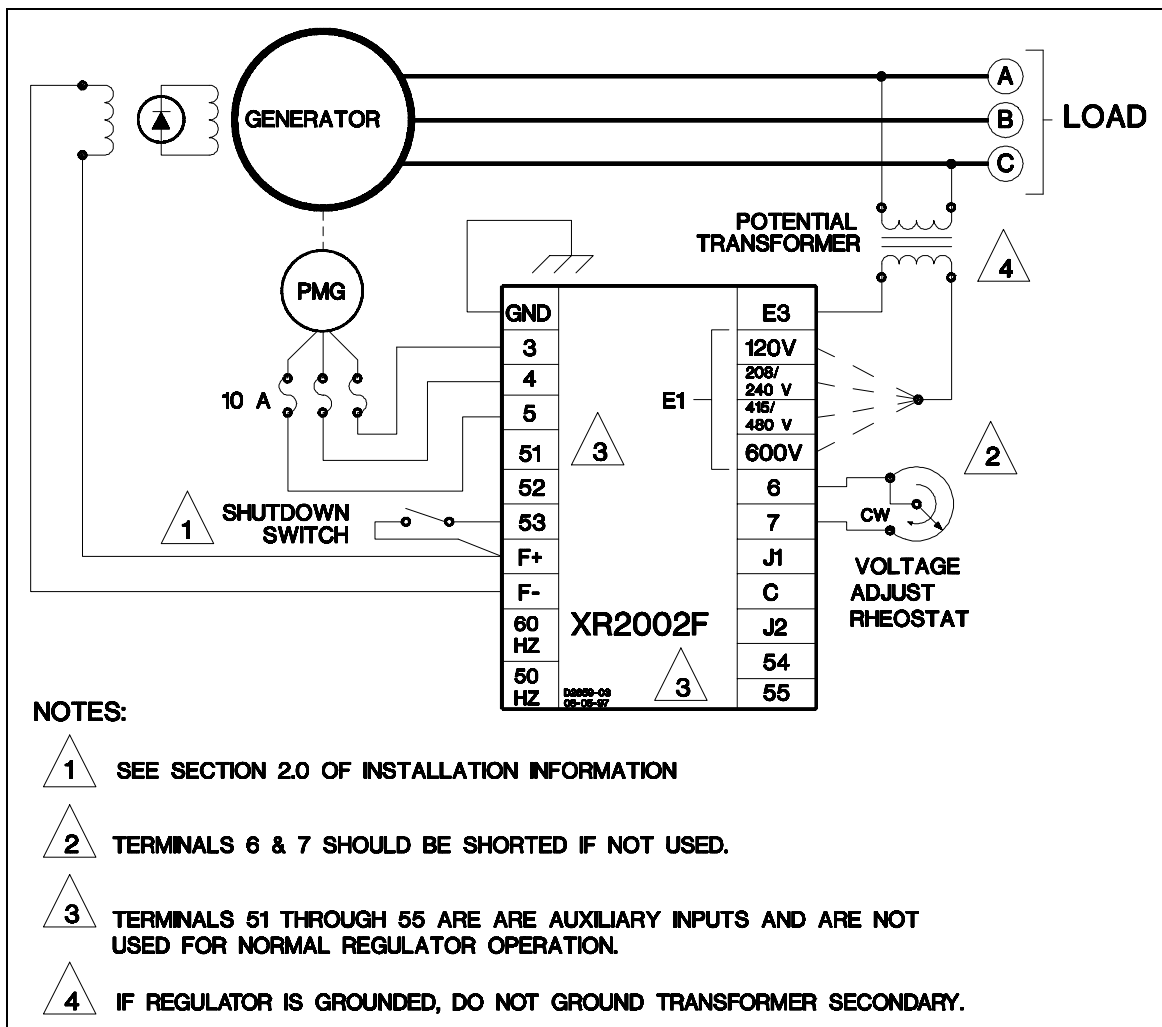

Figure 2-2. XR2002/XR2002F Interconnection Diagram (Input Power from PMG).
a. Refer to Figure 2-2 and 2-3. Connect the Voltage Regulator output terminals (F+ and F-) to the brushless exciter field terminals while being sure to observe polarity.
- b. Refer to Figure 2-2. Single-Phase input power from the PMG (within the 48 to 480 Hz frequency range) should not exceed 100 Vac to 180 Vac between terminals 3 and 4.
- c. Refer to Figure 2-2. Three-Phase input power from the PMG (within the 48 to 480 Hz frequency range) should not exceed 70 Vac to 140 Vac between terminals 3, 4, and 5.
(Refer to Figures 2-2 and 2-3.) To allow the removal of the exciter field power, it is strongly recommended that the factory installed jumper be removed from across terminals F+ and 53 and replaced with a switch. A switch (Basler P/N 05407) may be ordered for this purpose. The switch is a single-pole, two position, rotary selector switch that is rated for 10 A at 125 Vac.
It is highly recommended that a fuse with a high interrupting capability be installed in each of the input power lines. Refer to Figures 2-2 and 2-3.